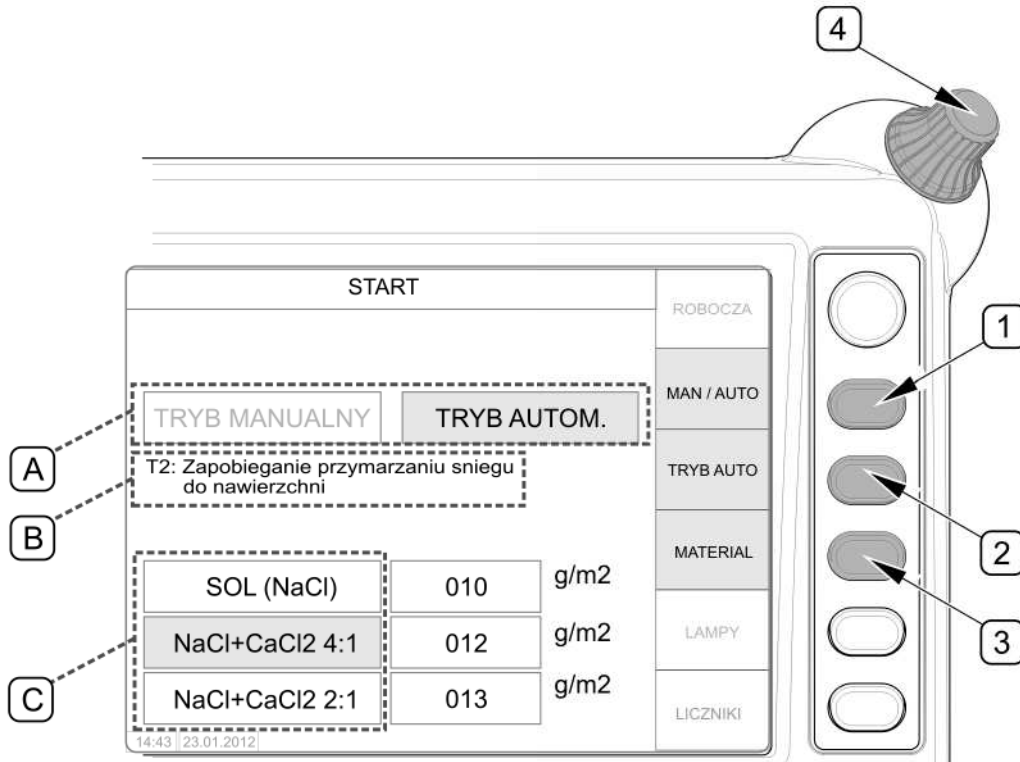

FIG. 4.30 Selection of automatic mode (option)
- on control panel home page ("START") (FIG. 4.30), select "AUTO MODE" in field (A) by means of push-button (1) „MAN / AUTO” on the display,
- select one of the defined modes (T1,T2,T3) in field (B) by means of push-button (2) "AUTO MODE",
- select type of spreading material in field (C) by means of push-button (3) (automatic mode can not be selected for "SAND" material)